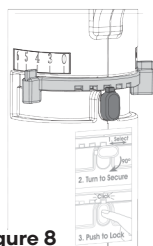

Figure 8
- b. Turn the Lock Pin vertical wise to secure the selected volume (See Figure 8).